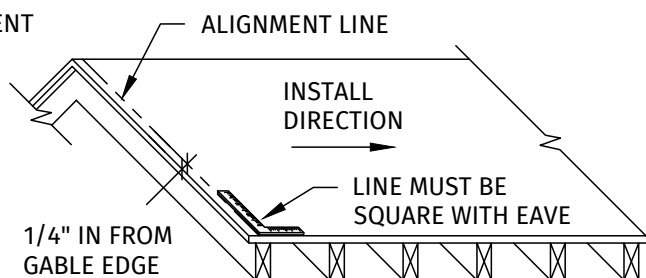

Figure 2
4. Place an alignment line along the gable end where the first roof panel will be installed. THIS LINE MUST BE LOCATED 1/4" IN FROM THE GABLE EDGE OF THE ROOF DECK AND SQUARE WITH THE EAVE LINE (See Figure 2). Various methods exist for insuring that the line is square. Call your ASC Building Products representative if you need assistance.